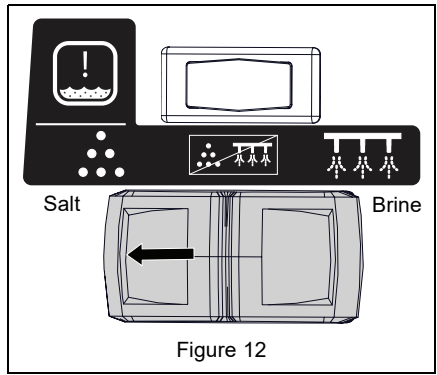

Figure 12
1. Move salt / brine switch to the salt position. See Figure 12.